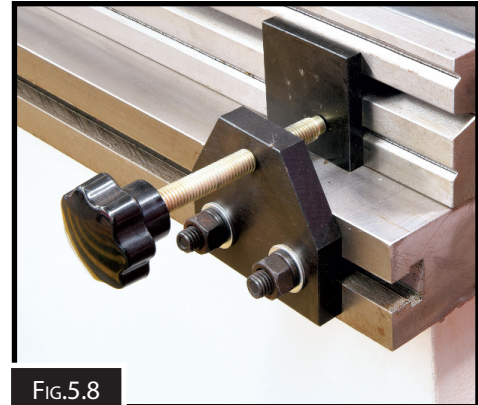

FIG.5.8
1. Use a rule and manually move the back gauge until it measures 100mm between the tip of the back gauge finger and the middle of pressing V. (Fig 5.8)
To remove the die, loosen the clamp screws (Fig.5.8) and lift the die off the machine.